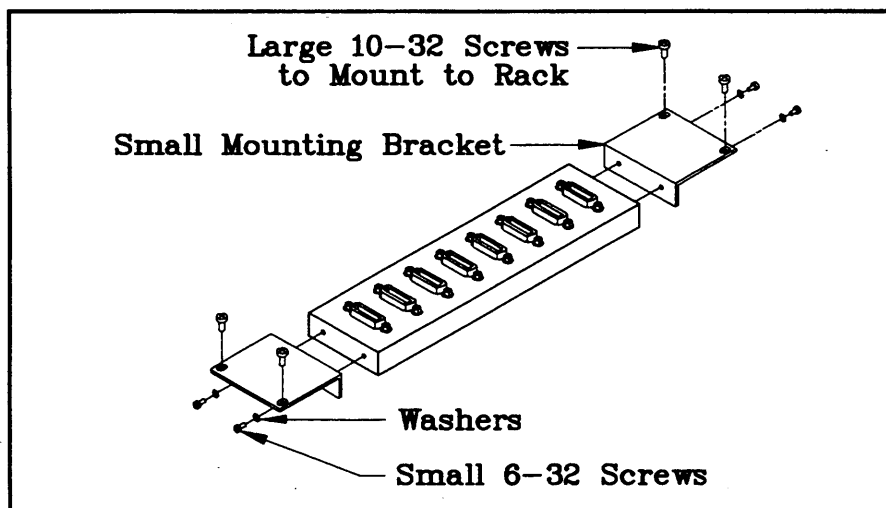
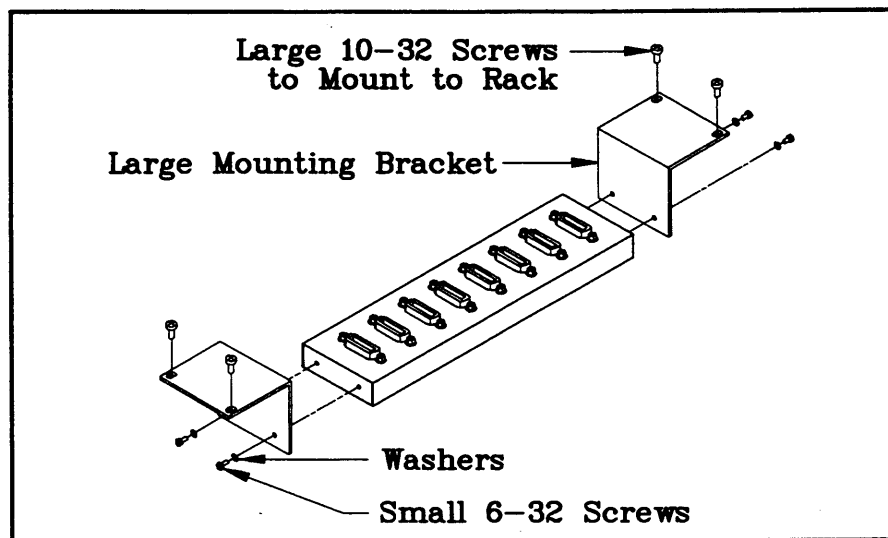

Figure 1. 8-Port GPIB Strip with Small Brackets
Figure 2. 8-Port GPIB Strip with Large Brackets
2. Select either the small or large mounting brackets and align the screw holes of the mounting bracket with the holes on the side of the GPIB strip as shown in Figure 1 and Figure 2.